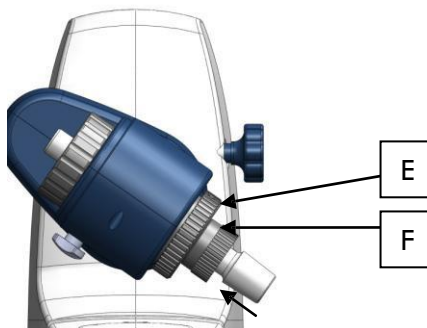

Figure 9
- Open the locking device (F) by unscrewing the 4 screws located on the main unit by turning counterclockwise
- Open the locking device on the drive head by turning it 60° counter clockwise (E), (Figure 9)